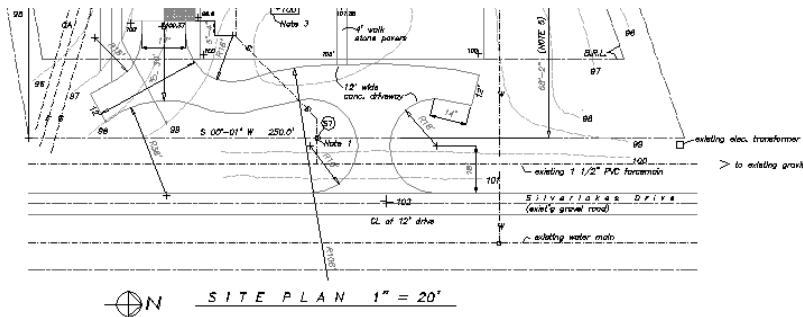

**Figure 16-32:** The parallel lines at the bottom of the site plan can be drawn by using a multiline.
2. Save the file as `ab16-07.dwg` in your AutoCAD Bible folder. This is a site plan, shown in Figure 16-32.